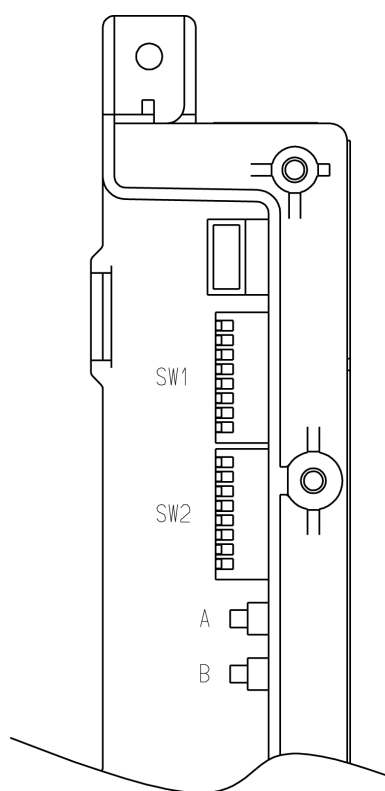

Fig. 1
4. Check gas type using the dataplate on the side of the casing and confirm the dip switches (Fig. 1) are in the correct position for the type of gas (Nat. or LPG)* you are using (see page 38).